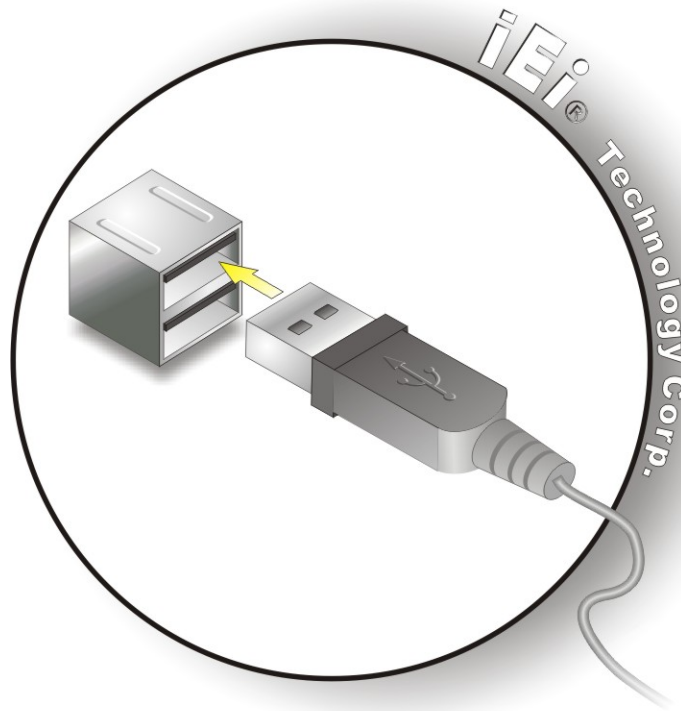

Figure 4-11: USB Device Connection
Step 2: Align the connectors. Align the USB device connector with one of the connectors on the bottom panel. See **Figure 4-11**.